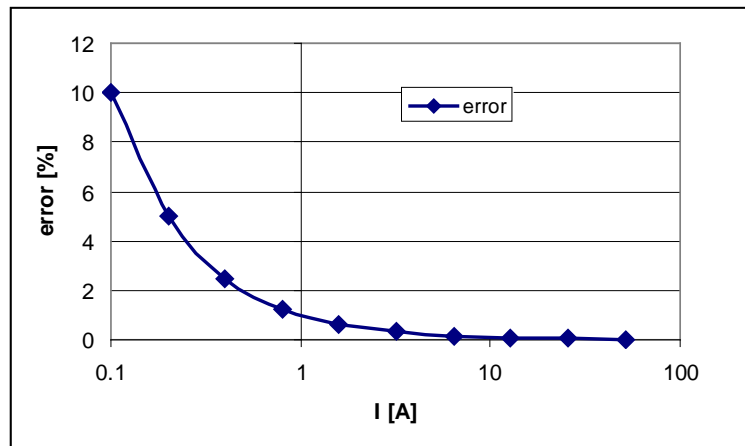

Figure 2-6: Non-Linearity Caused by Quantification Noise
Nonlinearity is most noticeable at low currents, as shown in Figure 2-6, and can result from input noise and truncation. Nonlinearities can be eliminated using the *QUANT* variable.
**Example:** Assuming an observed error as in Figure 2-6, we determine the error at 1A to be +1%. If  $V_{MAX}$  is 600V and  $I_{MAX} = 208\text{A}$ , and if the measurement was taken at 240V, we determine  $QUANT$  as follows: